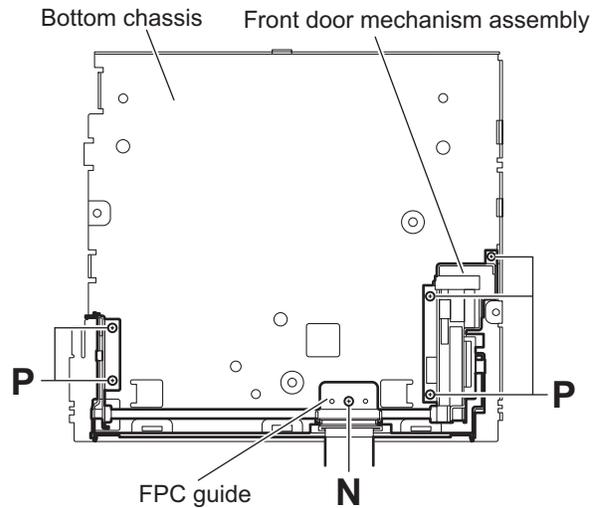

Fig.13
3.1.8 Removing the front door mechanism assembly (See Fig.13)